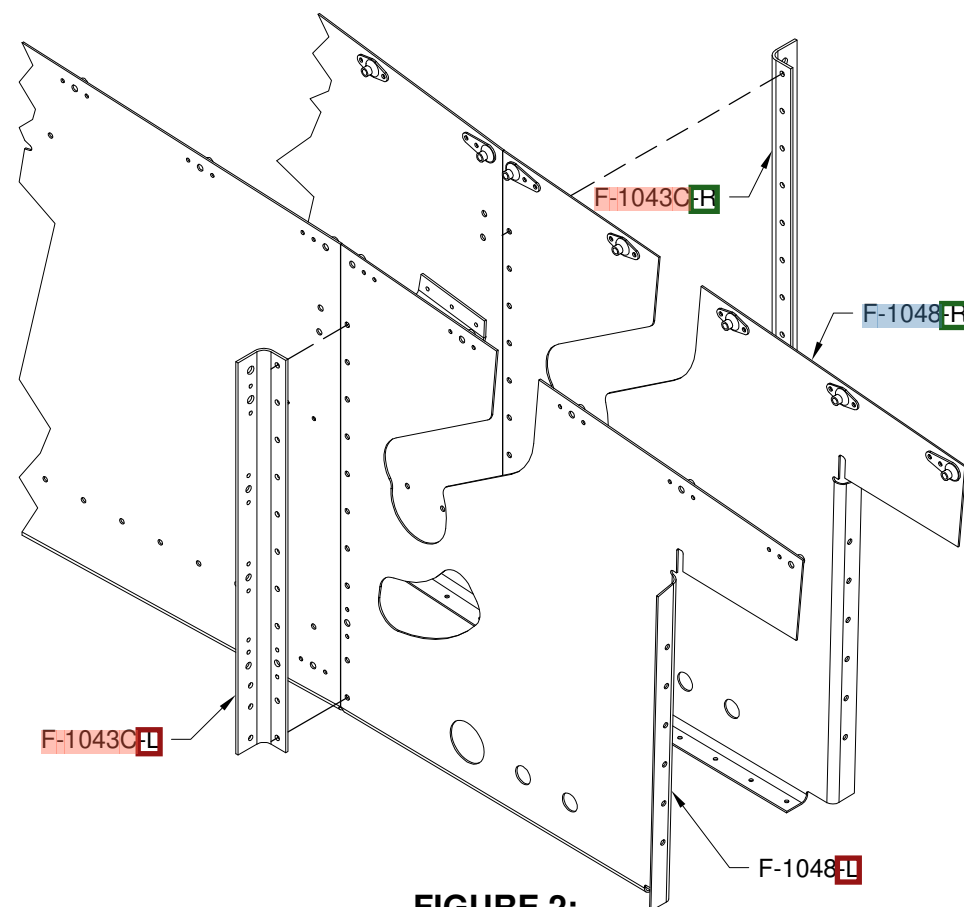

FIGURE 2:
Step 2: Cleco the **F-1043C-L** & **R** Attach Angles to the **F-1048-L** & **R** Fwd Fuselage Ribs as shown in Figure 2.